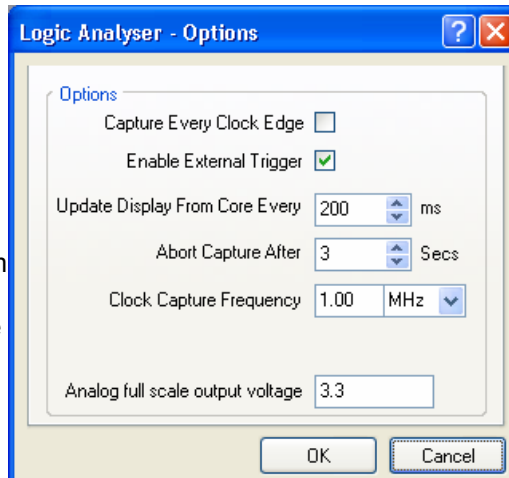

Figure 61. Logic analyser setup options.
- 14. Select **Options** on the logic analyser. Set the clock capture frequency to 1MHz – the same as the frequency generator module. Adjust the other controls to be the same as shown in Figure 61.